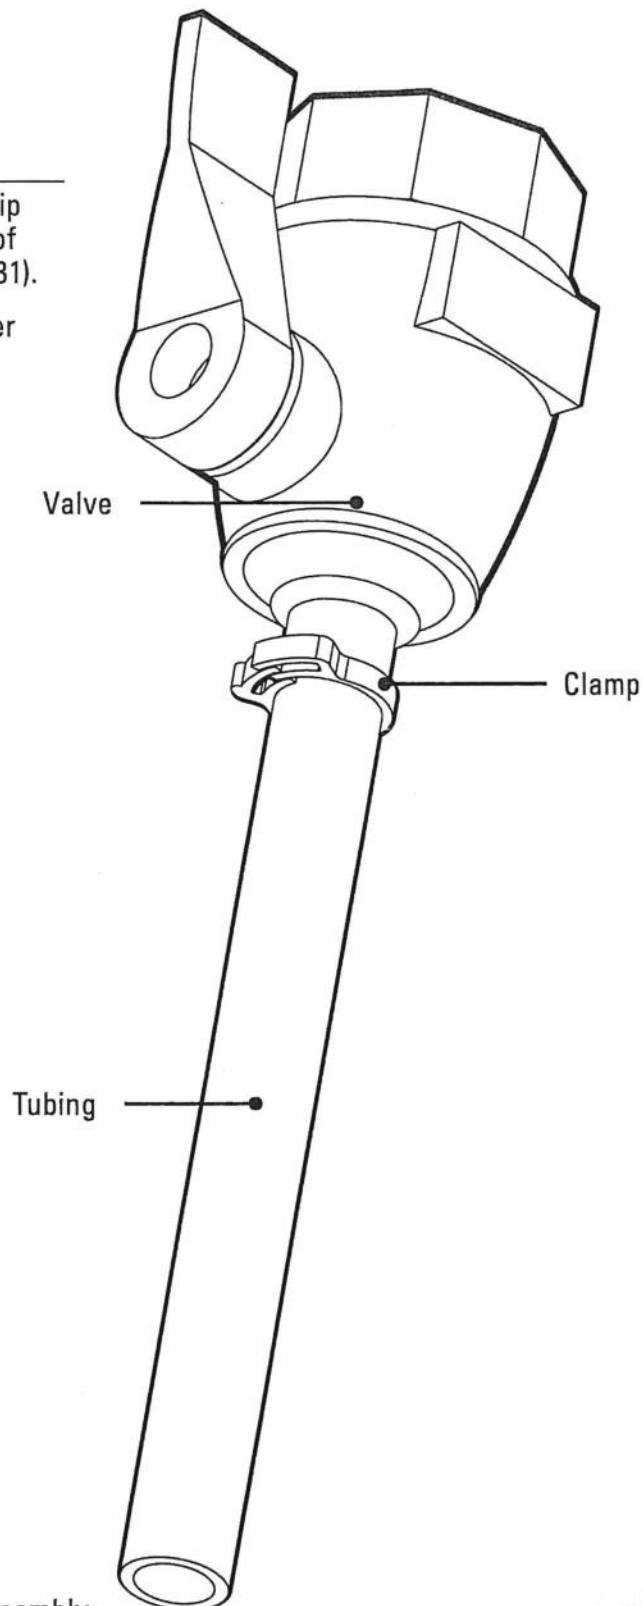

Figure 1
3. Slide the "open" clamp up over the portion of the tubing that is engaging the barbed portion of the valve as shown in Figure 1 below.